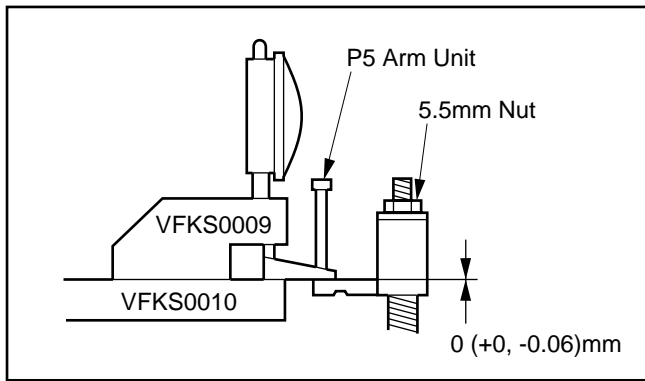

Fig. M11-4
2. Slightly raise the P5 post above the plate by turning the 5.5mm Nut counterclockwise. Place the foot on the post as shown in Fig. M11-4.